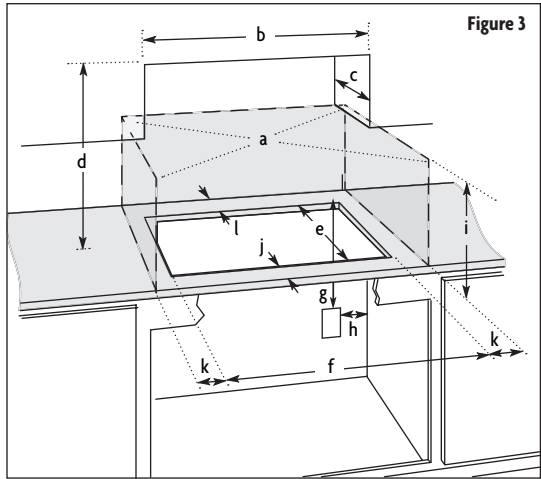

Figure 3
1. Determine whether your cabinet construction provides clearance for installing clamping brackets at cooktop base ends. (Refer to figure 3 on page 9.)